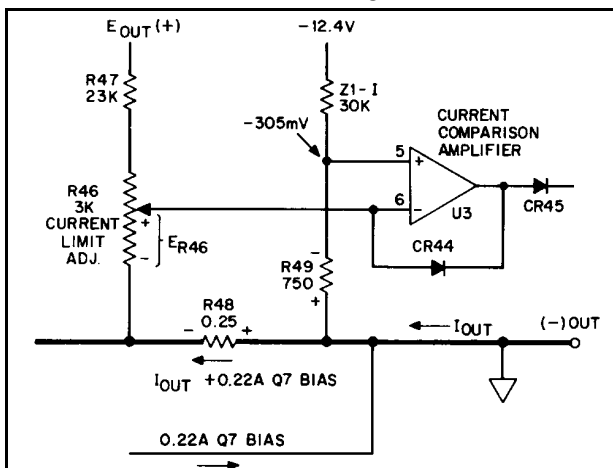

Figure 4-1. Foldback Current Limit Circuit in 6V Supply
4-28 Current Foldback Circuit. (For this discussion refer to the Figure 7-1 schematic and to Figure 4-1.) The differential input signal to the current comparison amplifier is the algebraic sum of three circuit voltages:
2. The voltage across the lower part of R46 (see Figure 4-1). E_{R49} is proportional to the regulator output voltage and equals 440mV when the supply output is 6 volts.